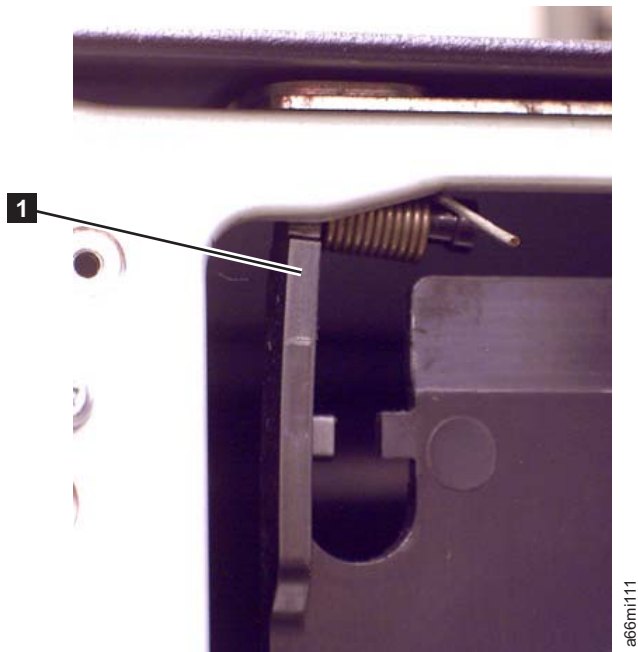

Figure 8-27. I/O Safety Flap Pivot Pin, Removed
4. Move the flap to the right to remove the pivot pin (**1** in Figure 8-27 on page 8-31) from the pivot hole (**1** in Figure 8-27 on page 8-31). The flap can now be